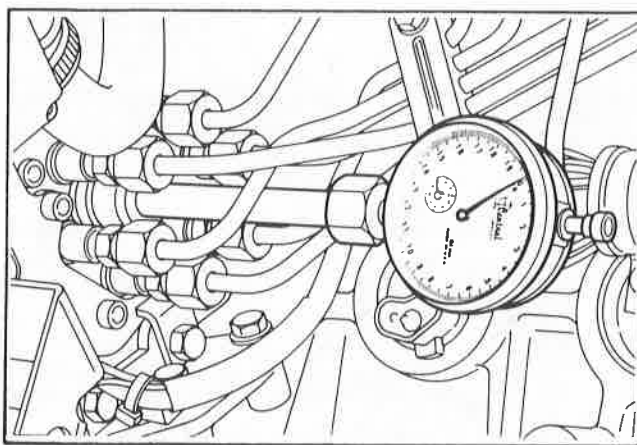

Figure 25 Adapter and Dial Indicator Installation
9. Mount dial indicator, D84L-4201-A or equivalent, into adapter making sure there is at least 0.25mm (0.100 inch) preload on dial indicator (Fig. 25).